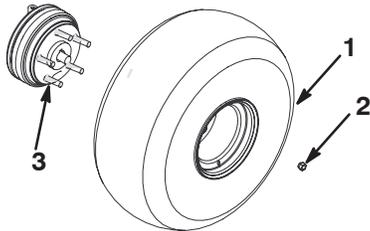

Figure 2
3. Mount the wheels with the previously removed fasteners (Fig. 2) and torque to 45–65 ft-lb (61–88 N·m).